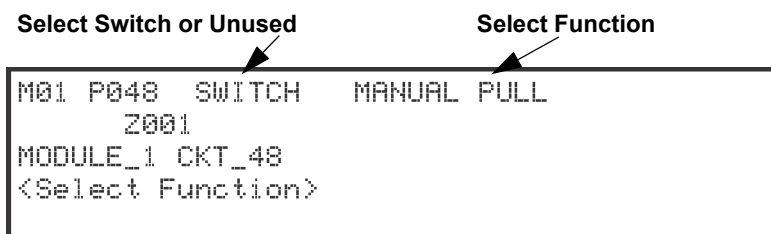

Figure 9.5 Programming Points as Inputs for the 5880 Module
10. To use 5880 as Input point, Enter point number 41 - 48. (See Figure 9.5). Then press ENTER.